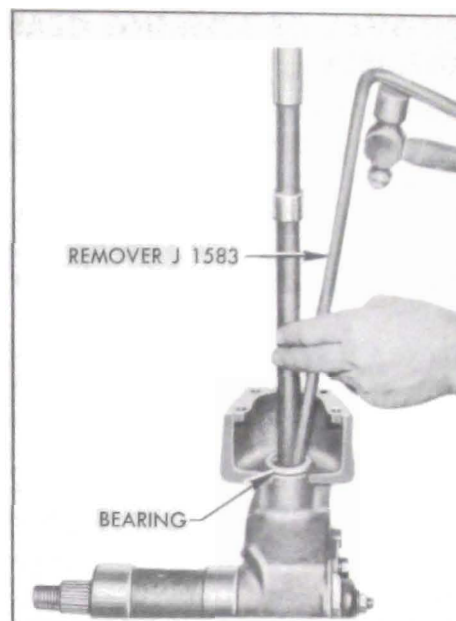

Figure 7-14—Removing Control Shaft Lower Bearing
5. Inspect oil shedder and control shaft bearing in gear housing. If bearing is of doubtful condition replace it, using Remover J 1583 to remove old bearing and Replacer J 1587 to install new bearing. See figures 7-14 and 7-15. Use care when installing new bearing as hard gear shifting will result if this bearing is damaged.